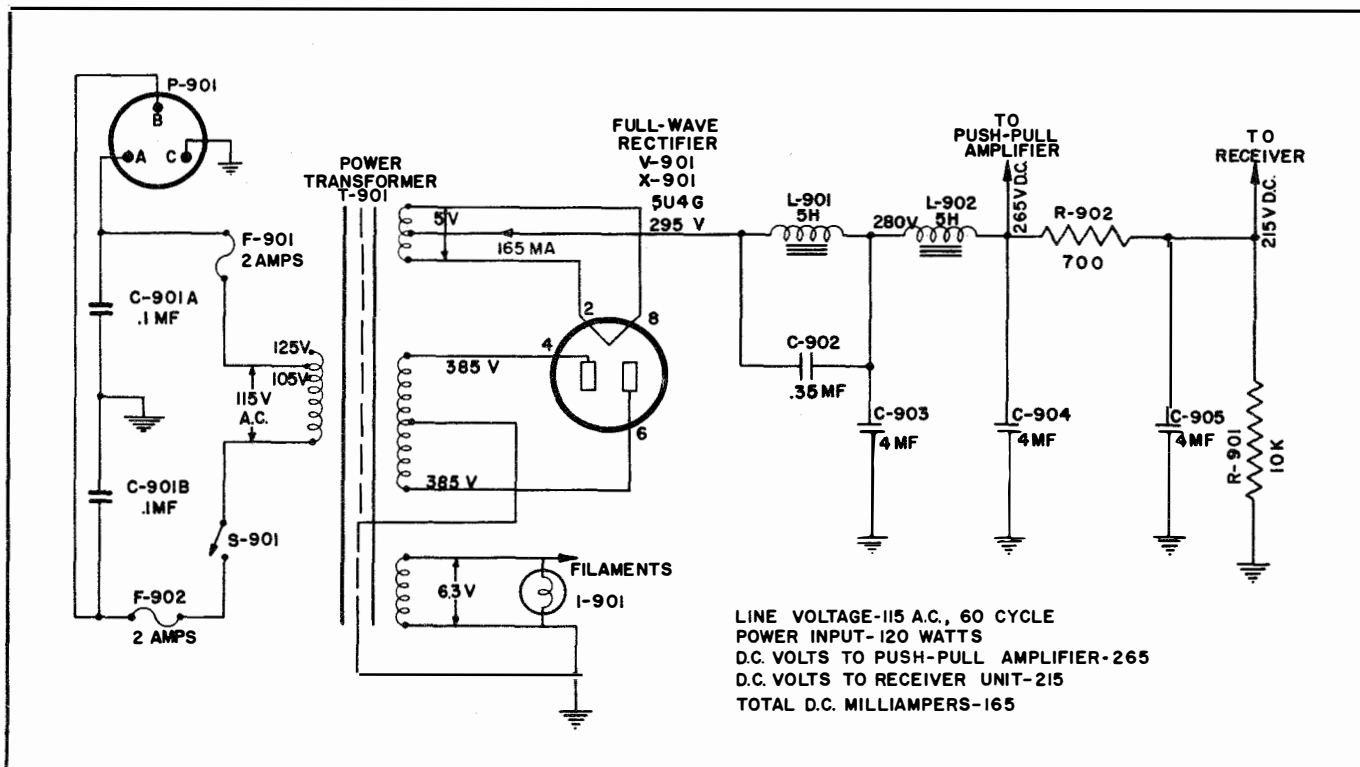

Figure 7-1. Power Supply and Filter Circuits
b. If the plates of the rectifier tube, type 5U4G, are so hot that they are red, check the filter capacitors, C-903, C-904, and C-905, in Figure 7-1 with an ohmmeter for shorts. All leads to these capacitors must be removed before tests are made on them. If a reading of less than 0.5 megohms occurs, replace the capacitor.
(b) Measure the voltage between pins No. 4 of V-902 and V-903 and ground. The reading should be approximately 265 volts D.C. (See Table 7-2 and Figure 7-1).